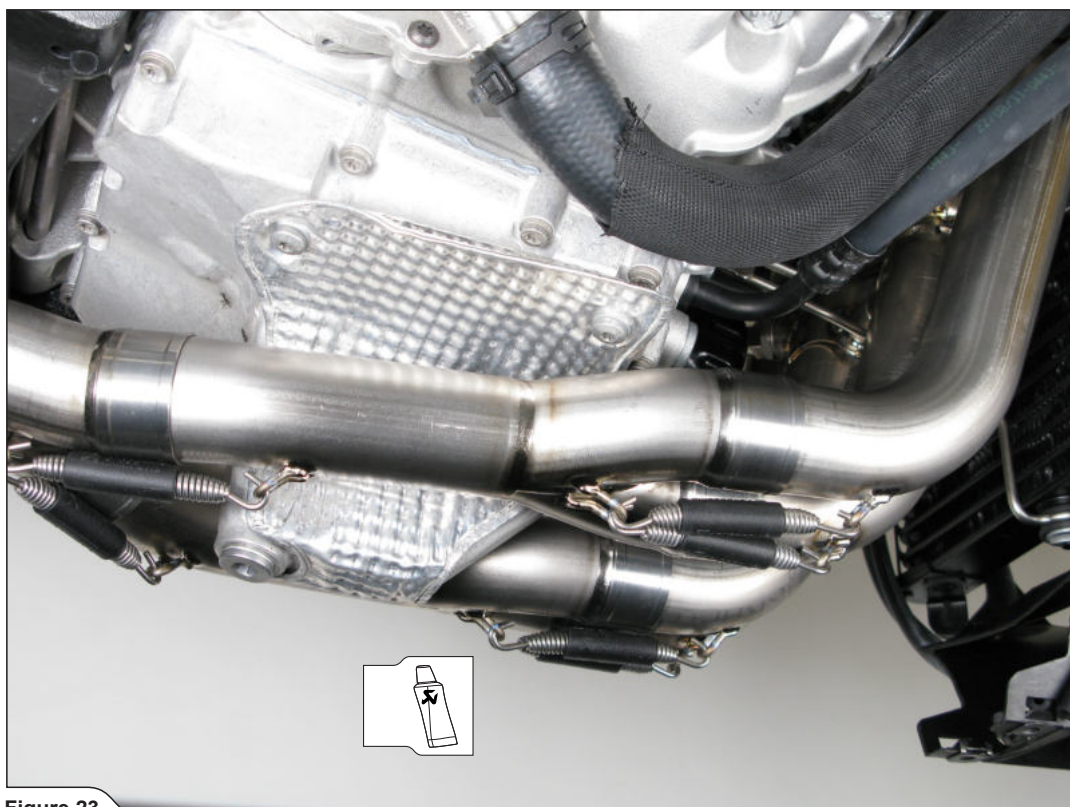

Figure 23
7. Slide the assembled link pipe and collectors onto the header tubes and attach the springs (Figure 23).